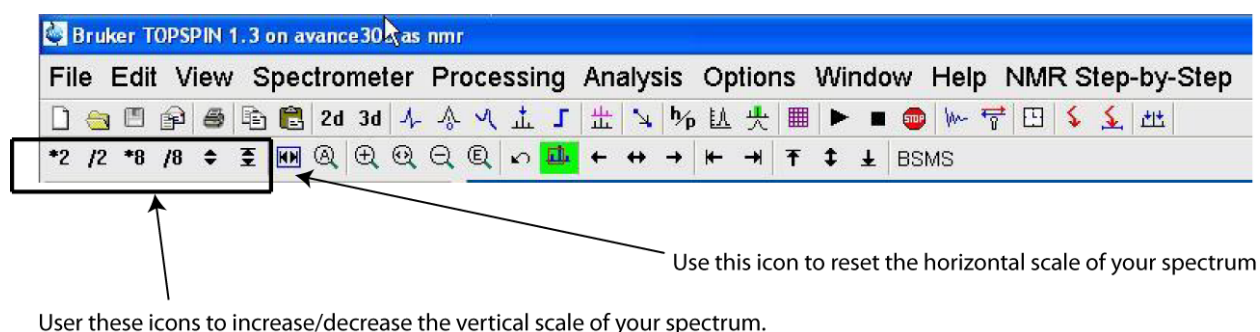

Figure 21 Buttons for vertically and horizontally adjusting the spectrum.
(16) At this point it is important to note where the horizontal and vertical adjustments can be found in Topspin menu-bar. Figure 21 (below) illustrates where these buttons are found. All of the vertical scale adjustments are done with the buttons shown; however, the horizontal scale is adjusted by left clicking the mouse, dragging the cursor over the area of interest, and then left clicking one more time. The horizontal scale can be reset to the full window by left clicking on the icon indicated below. User should play with these buttons to get comfortable with their use.